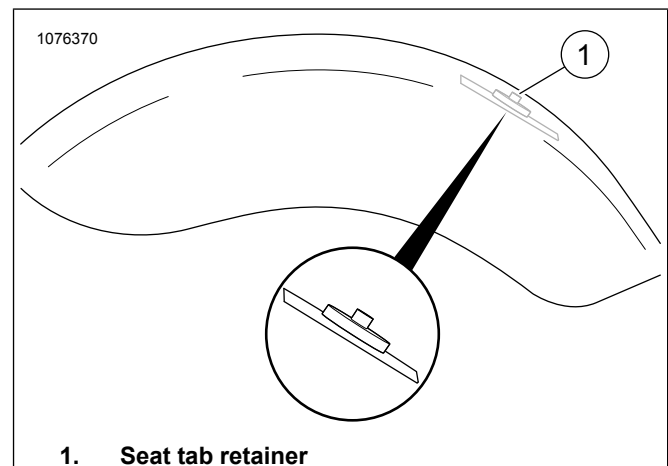

Figure 2. Fastener with Tape
See Figure 2. Using duck tape, adhere seat tab retainer (1) in same spot where the seating retaining nut was removed.